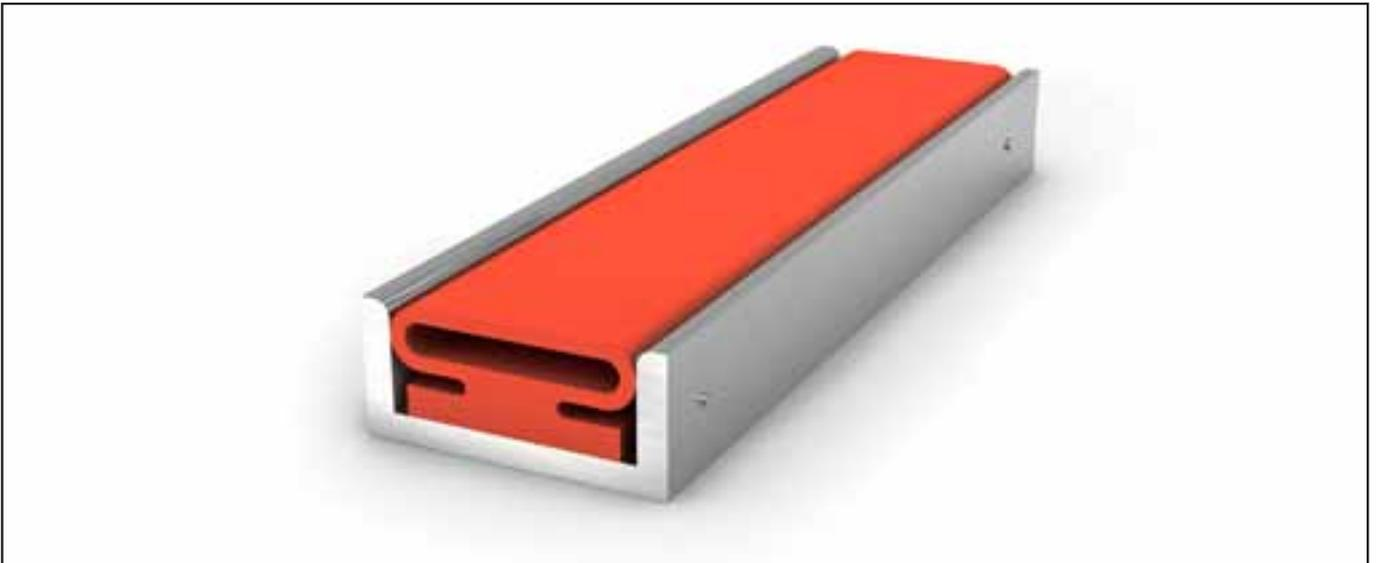

Figure 9 Retention System B
Low-pressure seals (LP) are generally secured mechanically with clamping elements. Figure 9 and Table 5 show the mounting elements with the corresponding installation dimensions. These can also be used for chambered installation.